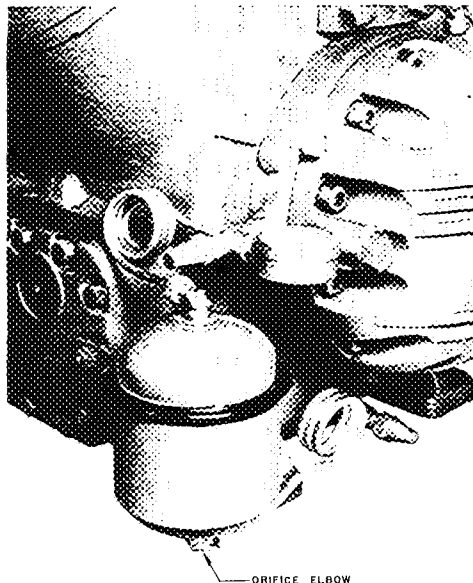

FIG. 14 - OIL FILTER INSTALLATION
The 5H40, 60 and 80 have bleed-type, high pressure throwaway filters (see Fig. 14). To replace the filter:
**WARNING:** Orifice elbow must be installed as shown in Fig. 14.